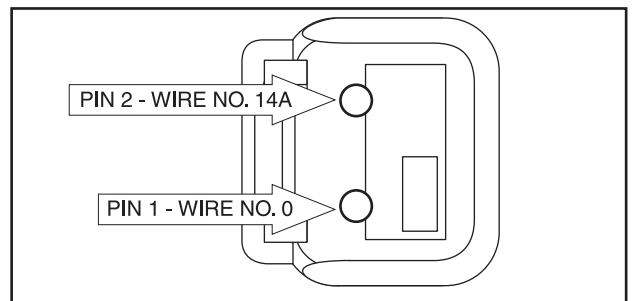

Figure 7-12. – Harness End of Connector 2
5. For gasoline models, disconnect Connector 2 at the Fuel Pump. Connect the VOM positive (+) test lead to Wire 14A, (Pin 2 of Connector 2) going up to the Control Panel (see Figure 7-12). Connect the VOM negative(-) test lead to frame ground. Repeat Steps 4a and 4b. Battery Voltage should be measured when the Primer Switch is activated.
4. In Test 19, Battery Voltage was checked at Connector 2. This step will test the ground wire. Disconnect Connector 2 at the Fuel Pump. Set the VOM to measure resistance. Connect one test lead to Wire 0, (Pin 1 of Connector 2) that goes to the Control Panel (see Figure 7-12). Connect the other test lead to a clean frame ground. “Continuity” should be measured.